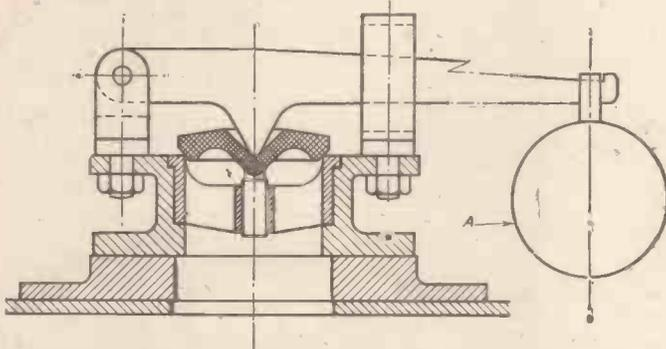

Fig. 4.—Lever type safety valve for weight or spring balance.
The lever-type safety valve shown in Fig. 4 was largely employed on early boiler schemes and gave good results, some employing the circular cast-iron weight as illustrated at "A" to give the required balance, while others were provided in later schemes with a spring balance (B), which had a screw adjustment. Unfortunately, each of these designs offered excellent scope for improper use, and the facility which enabled an increased steam pressure to be carried has been responsible for numerous boiler accidents. The lever, however, was useful, as it enabled a boilerman to test his valves and safeguard against the risk of a sticking valve. Incidentally, it opened the way to greatly improved designs in which this detail was retained.
For a number of years after Stephenson produced his famous "Rocket," the design of safety valves for locomotives took different forms. On the "Rocket" a lever type, on similar lines to that shown in Fig. 4, was employed, while Hackworth's locomotive "Sans Pareil" had springs—coach springs in miniature—fitted instead of a weight. A number of early locomotives were provided with dead weight valves, but these were found to be unsafe when the engine was in motion, and their use was soon abandoned. Even the lever and weight type proved unsuitable as the weight obviously tended to jolt off the lever as the engine travelled across the irregularities of the track, the spitting of steam through the dithering valve being most objectionable.